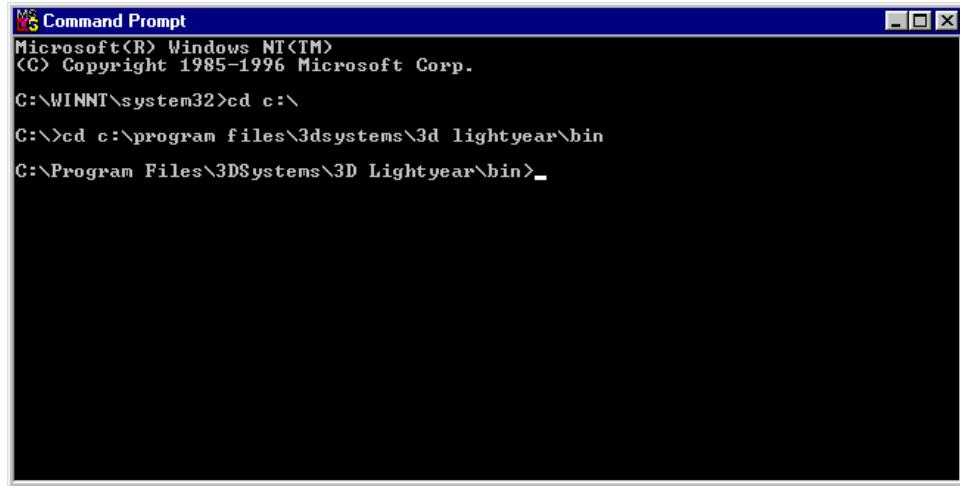

Figure 12. Using the "cd" command to change directories to "bin".
- 2. Use the "cd" (change directory) DOS command to switch to the "bin" sub-directory (folder) in the "3D Lightyear" directory where the Setup program created it (See Figure 12).**